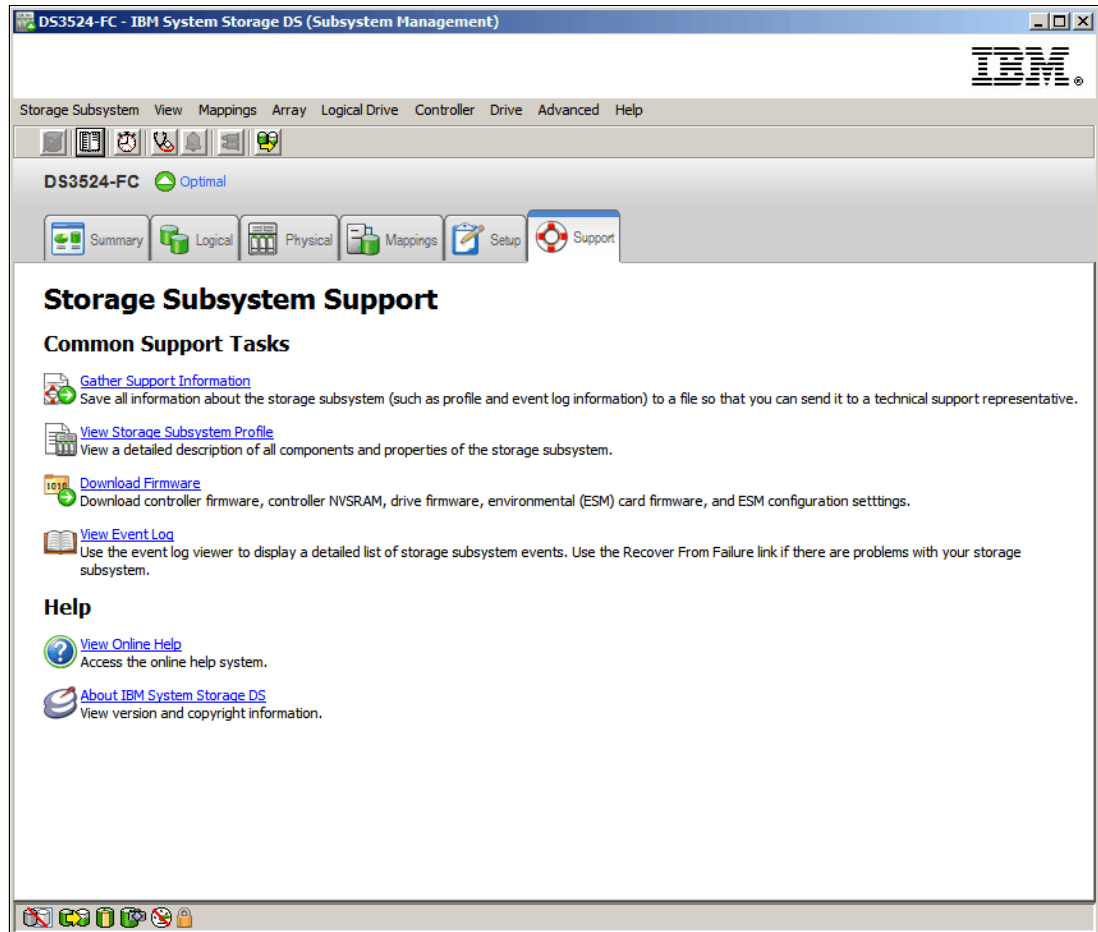
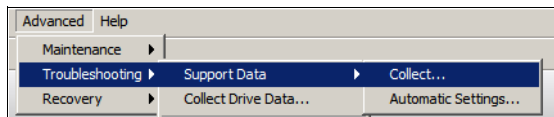
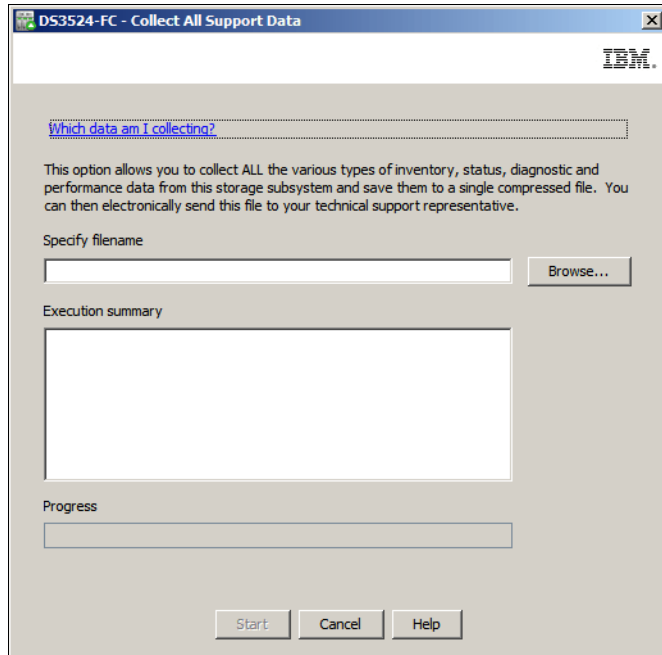
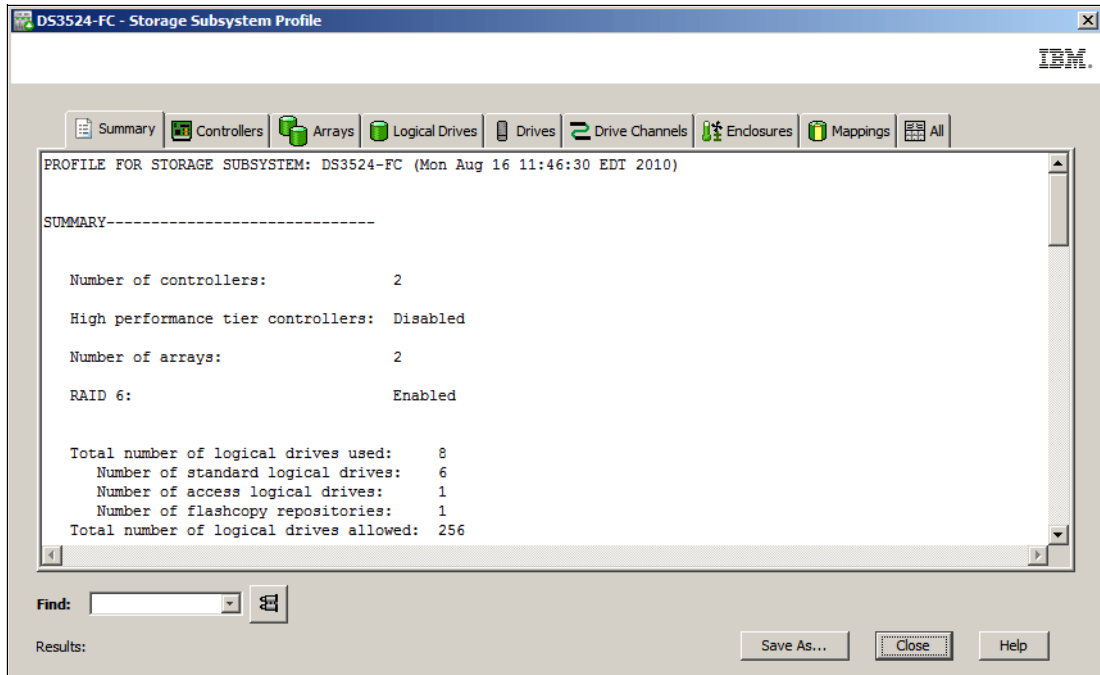

Figure 14-1 The DS Storage Manager (Subsystem Management) Support Tab
Figure 14-2 Open the Collect All Support Data window from the Advanced menu
Figure 14-3 Collect All Support Data window
Figure 14-15 The default view when viewing the DS3500 Storage Subsystem Profile
In this section we introduce the main support functions that are accessed from the DS Storage Manager (Subsystem Management) support tab (Figure 14-1).
The Support tab (Figure 14-1) provides links to the following support functions:
- ▶ Click the **Gather Support Information** link in the main Support tab (Figure 14-1 on page 330) to open the **Collect All Support Data** window (Figure 14-3 on page 332).
- ▶ Click **Advanced** → **Troubleshooting** → **Support Data** → **Collect** as shown in Figure 14-2 to open the **Collect All Support Data** window (Figure 14-3 on page 332).
1. Click **View Storage Subsystem Profile** in the Support tab (Figure 14-1 on page 330). The Storage Subsystem Profile window appears as shown in Figure 14-15 on page 339.
- After the profile is saved, click **Close** (in Figure 14-15 on page 339) to return to the Support tab.